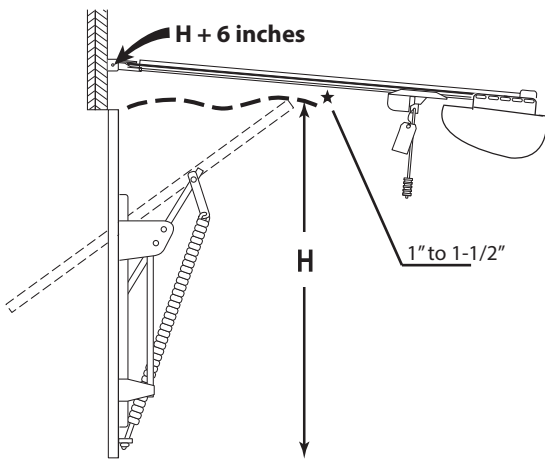

Fig. 1
Note that the powerhead will be mounted lower than the header bracket as shown in Fig. 1 as opposed to a sectional type door installation.
2. Install powerhead to ceiling using Fig. 1 as a guide to its position and installation poster as a guide to mounting and hardware needed.